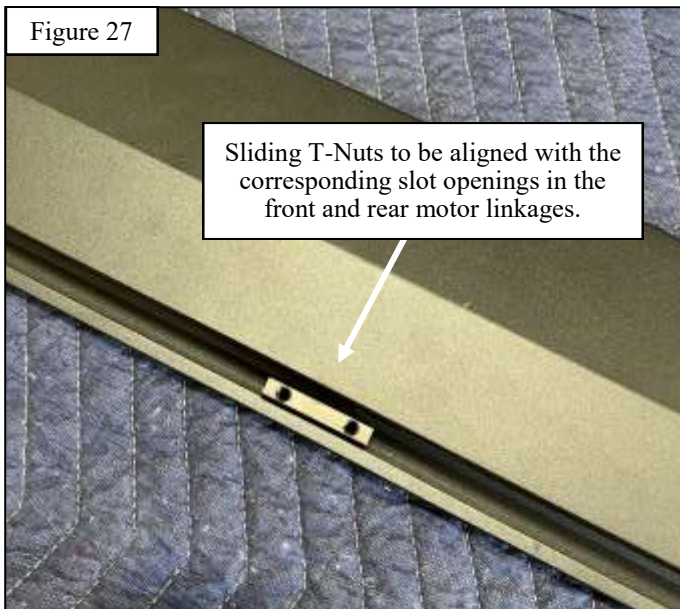

Figure 27
21. With assistance, loosely install one of the running board assemblies (Item 1) to the passenger side of the vehicle. Position the board on the front and rear motor assembly bases, and align the sliding T-Nut on the running board with the corresponding slots on the front and rear motor bases. Once the T-Nuts are aligned, slightly rotate the running board to allow the T-Nuts to set into the slots on the motor bases. (See **Figure 27 & 28** for reference).